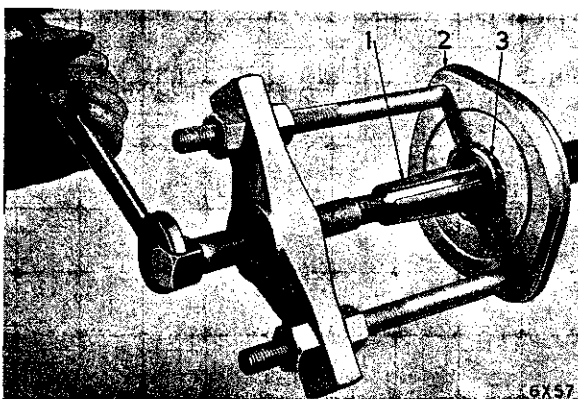

Fig. 4—Removing Bearing from Axle Drive Shaft
(2) Block the brake pedal to prevent its being depressed and disconnect the brake lines at the wheel cylinders.
(3) Remove the axle drive shaft key and remove the brake support plate assembly using Tool C-745 to protect the outer seal.
(4) Carefully remove the shim pack from each end of the axle housing. Identify each shim pack as to location to aid in reassembly.
(5) Remove the axle shaft and bearing assembly with Tool C-499 (Fig. 3). If necessary, the bearings may be removed from the axle shafts with bearing puller Tool C-293 and number 13 adaptors (Fig. 4).
(6) Remove the axle shaft inner oil seals with puller Tool C-637. Remove the brake support plate outer seal with Tool C-3565.